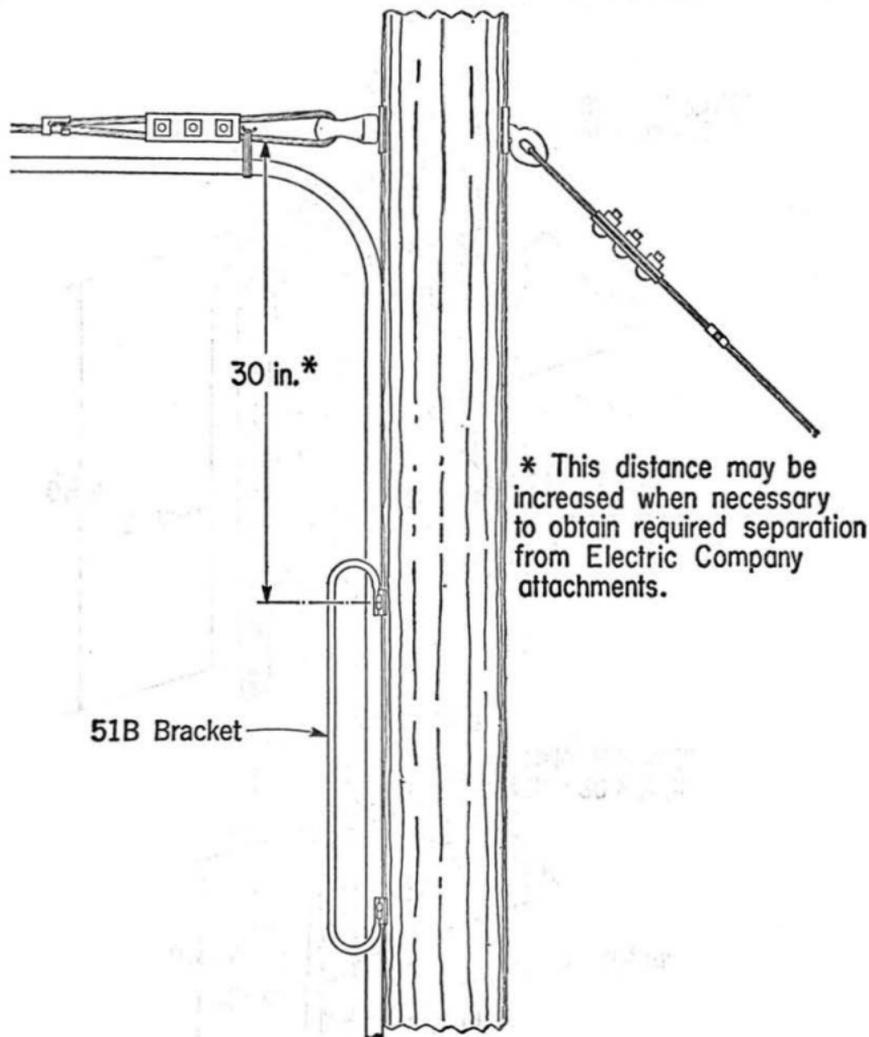

Fig. 3
- (a) At a UG dip or an aerial and buried or underground junction as shown in Fig. 3.